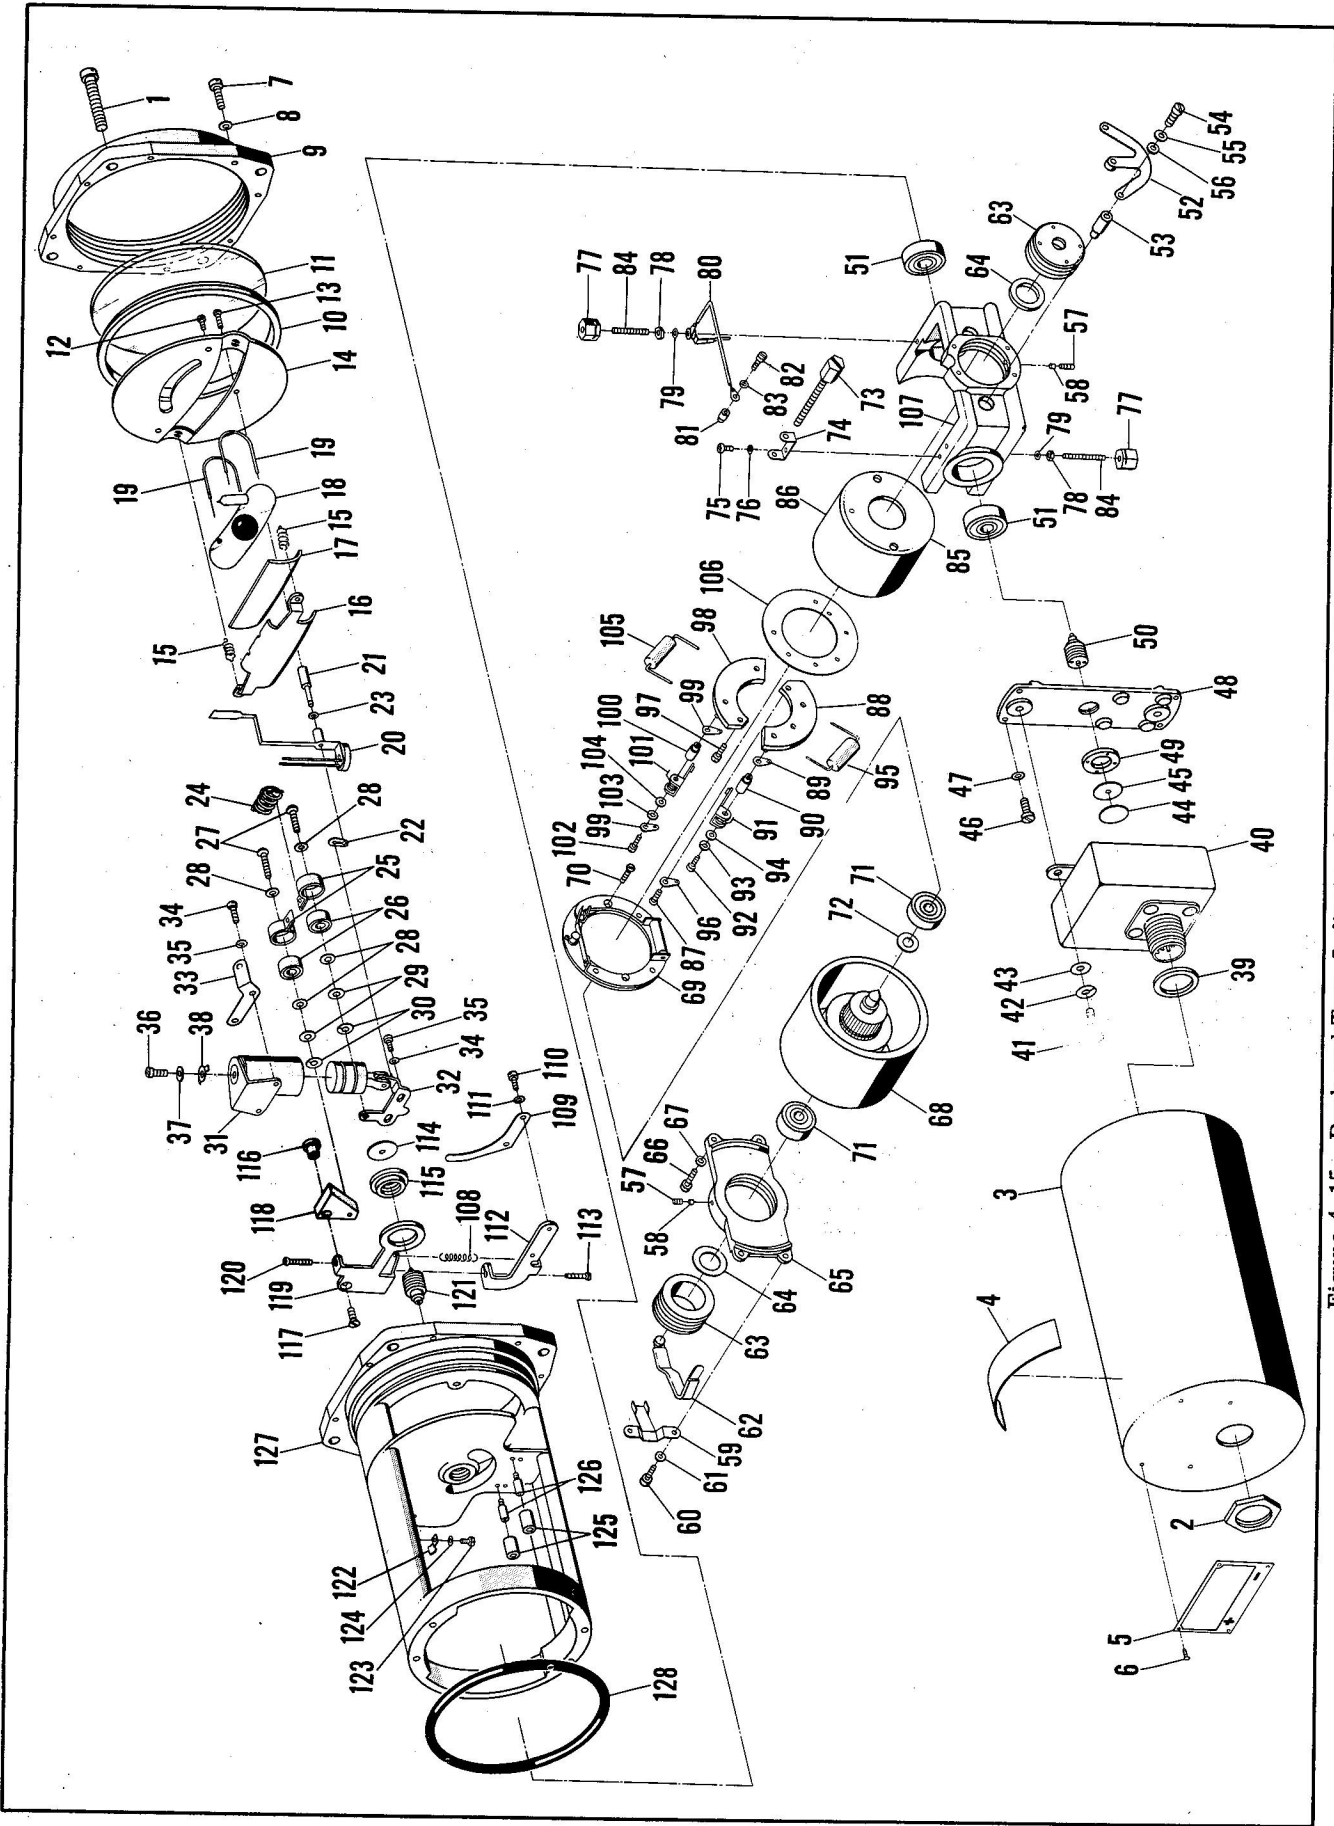
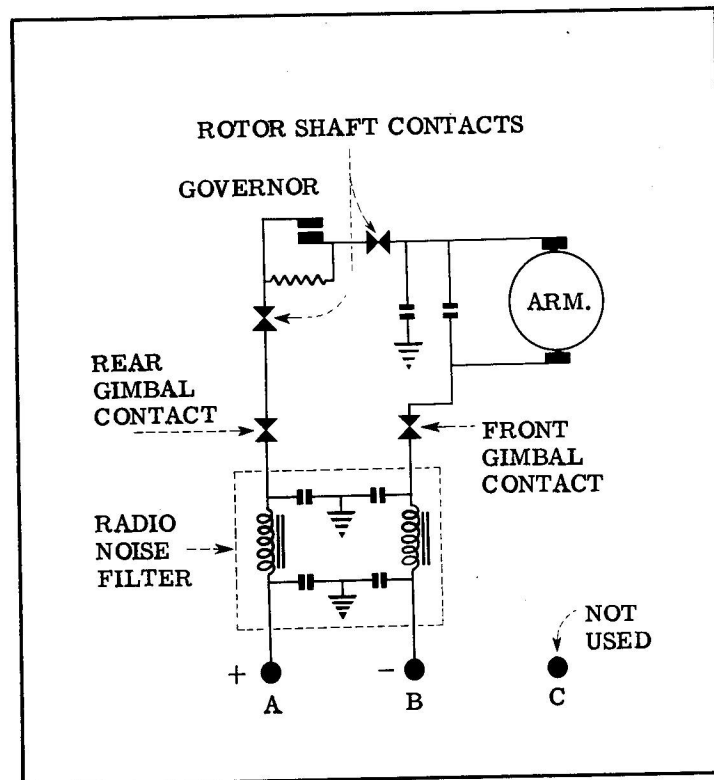

Figure 4-15. Bank and Turn Indicator Assembly, Model B4B-E
Figure 4-16. Wiring Diagram, Model B4B-E
DISASSEMBLY. (See figure 4-15.) Same as Model B4 except that filter assembly (40) replaces individual radio noise filtering components used on Model B4, and insulation (44) is used between insulating washer (45) and the filter assembly. The negative side of the electrical circuit is insulated throughout with insulation (81), and (114), and pivots (90), and (100). Condenser (105) is used between negative brush arm assembly (101) and ground. See figure 4-16 for wiring diagram.
TEST PROCEDURE. Same as Model B4 except that pointer deflections must be within tolerances listed in Table VII. See figure 4-16 for wiring diagram.
KEY FOR FIGURE 4-15